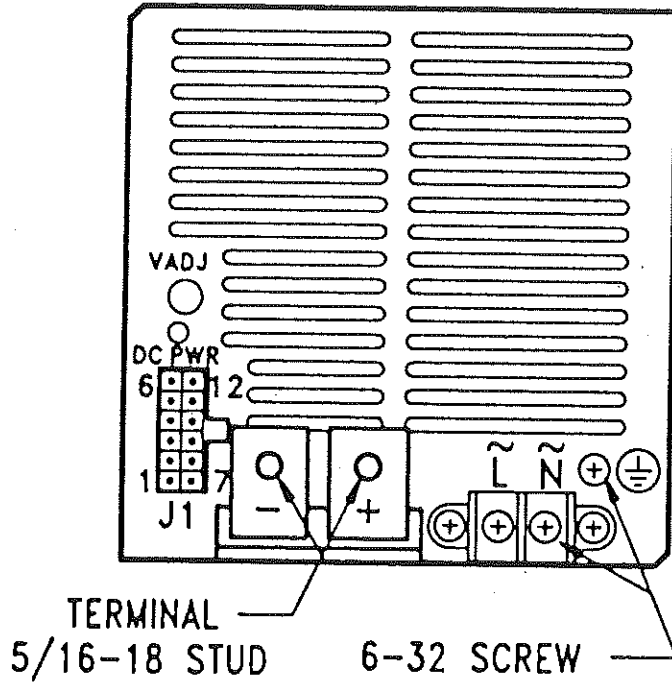

Figure 5. F Series Front Panel Diagram.
- 6.1 The F Series front panel is shown in Figure 5. Case 40 (650W models) is 4 inches (101.6mm) high and case 42 (800 & 1000W models) is 5 inches (127.9mm) high.
9.2 **Outputs.** The output power connections are made to No. 5/16-18 studs on nickel plated brass bus bars. See Fig. 5. The right bus bar is positive and the left bus bar is negative.
- 9.7 **Output Voltage Adjustment.** The output voltage is adjustable by means of the potentiometer on the front panel above J1. See Fig. 5. The output should not be continuously operated outside its nominal range of $\pm 5\%$, and the output power must not exceed the maximum rating of the power supply.
The following are the control and supervisory signal pin designations for J1. See Fig. 5.